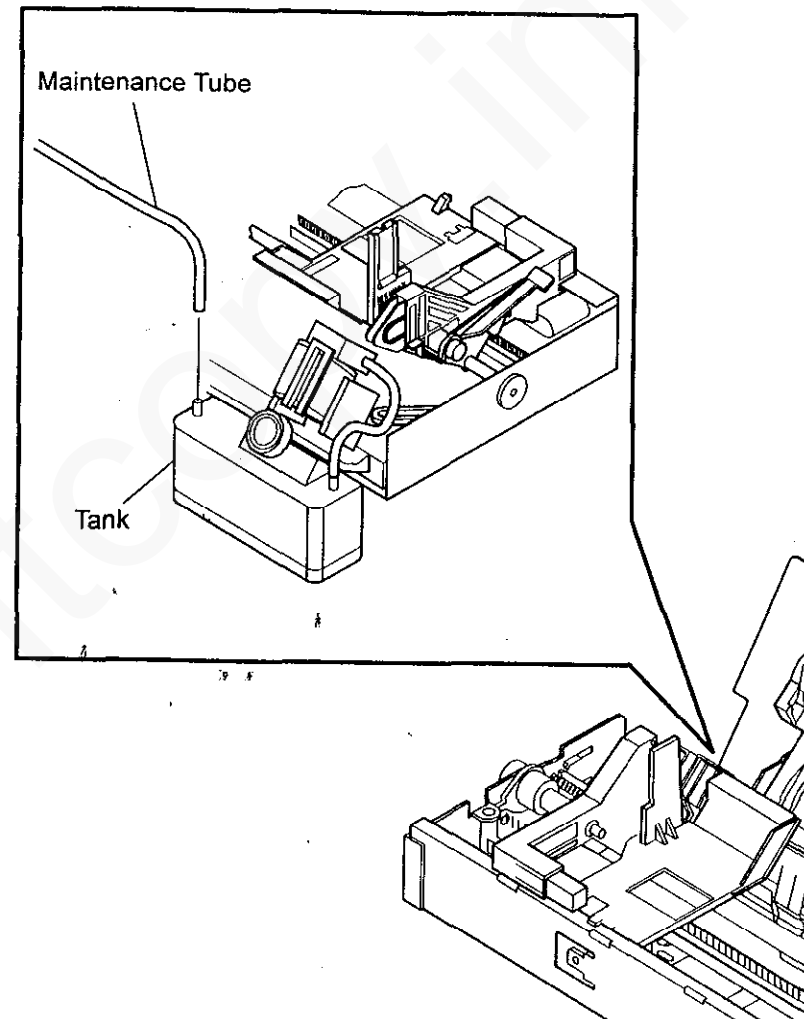

Figure 1 Disconnecting the Maintenance Tube
3. Disconnect the maintenance tube from the tank (Figure 1).